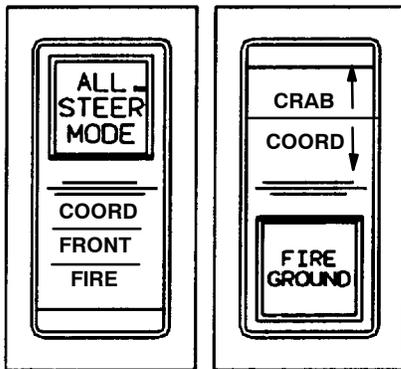

Figure 2. Mode Selector Switches
2.1 Steering Controls. The ALL STEER® control system includes a three-position ALL STEER® mode switch for selecting between front, coordinated and fire ground steer modes, see Figure 2. With the ALL STEER® mode selector switch in the FIRE GROUND position, the fire ground two-position rocker switch allows selection between fire ground-coordinated or fire ground-crab steer modes, see Figure 2.